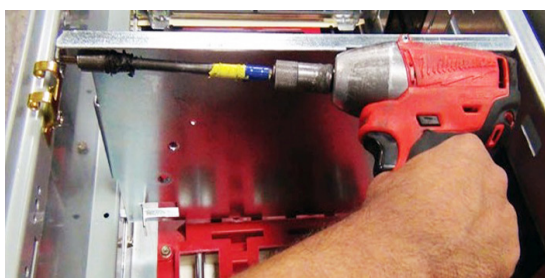

Figure 8a. Assembling AFM unit shelf.
Step 1: Replace the existing shelves with the new AFM shelves as shown in Figure 8a and 8b. The AFM unit shelves are fastened at two